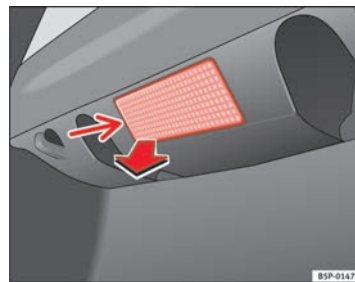

Fig. 199 Luggage compartment light
- Remove the bulb by pressing on the inside edge of this -arrow- using the flat side of a screwdriver ⇒ fig. 199. ▶